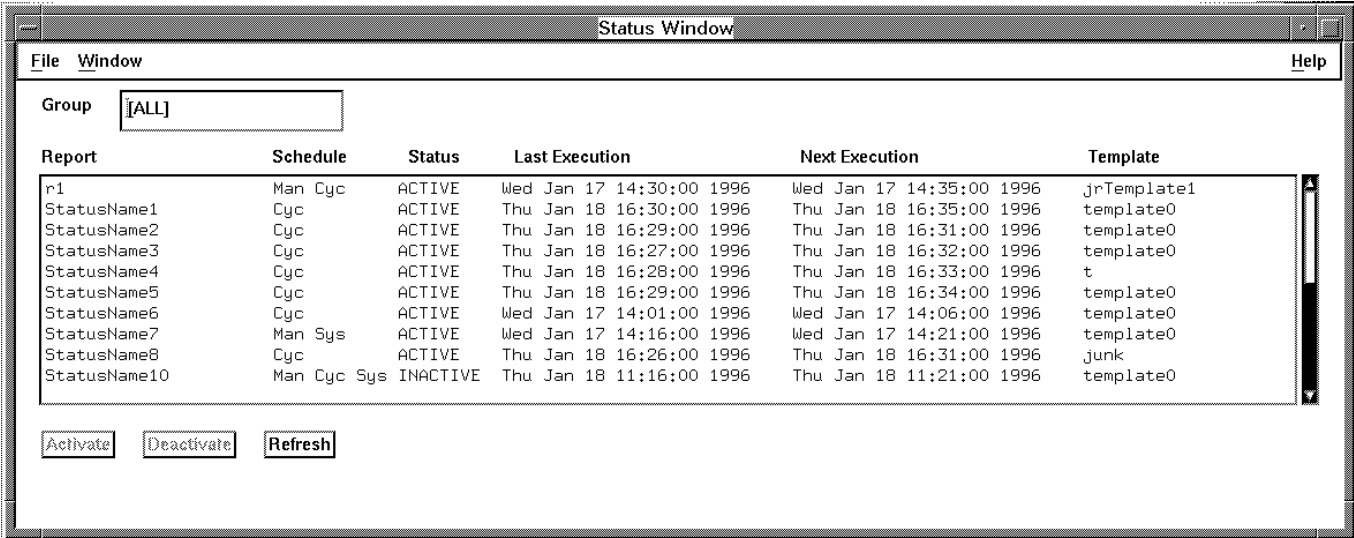

Figure 1-12. Report Status Window
The Report Status window, Figure 1-12, shows the status of reports in the system, and allows you to activate and deactivate reports scheduled in the program and system modes. Reports that are scheduled in the manual mode will execute even when deactivated via this window. The display is updated every ninety (90) seconds.